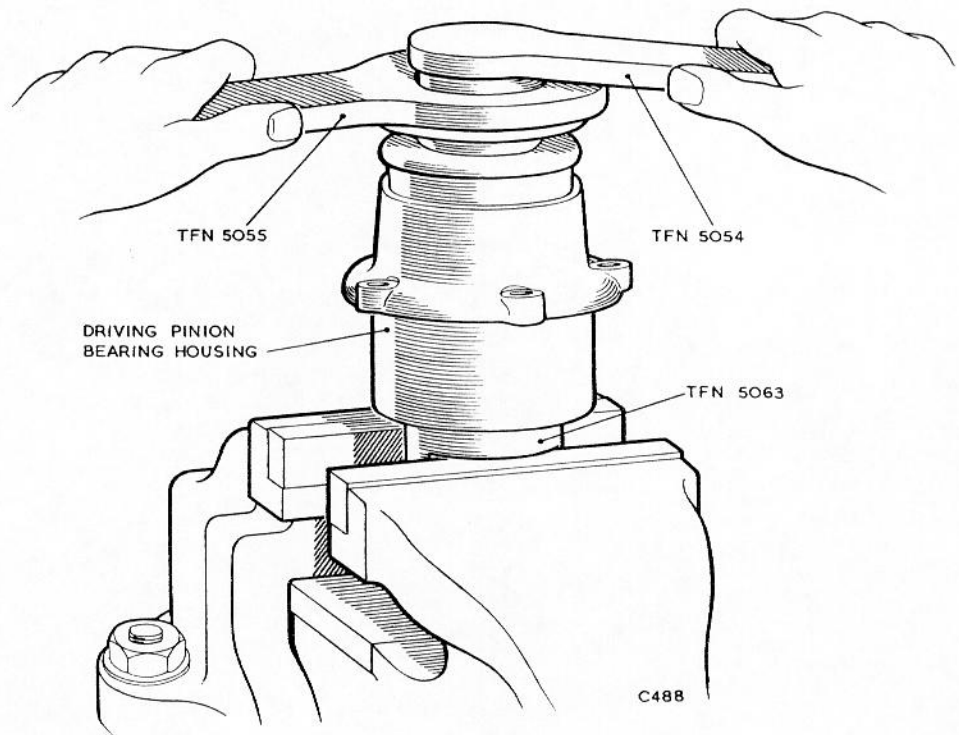

Fig. 15 Tightening bearing housing on dummy driving pinion.
2. Using the dummy driving pinion TFN.5063 (as shown in Fig.15), assemble all the components (with the exception of the oil seal) then tighten the nuts securely with the spanners TFN.5054 and TFN.5055.